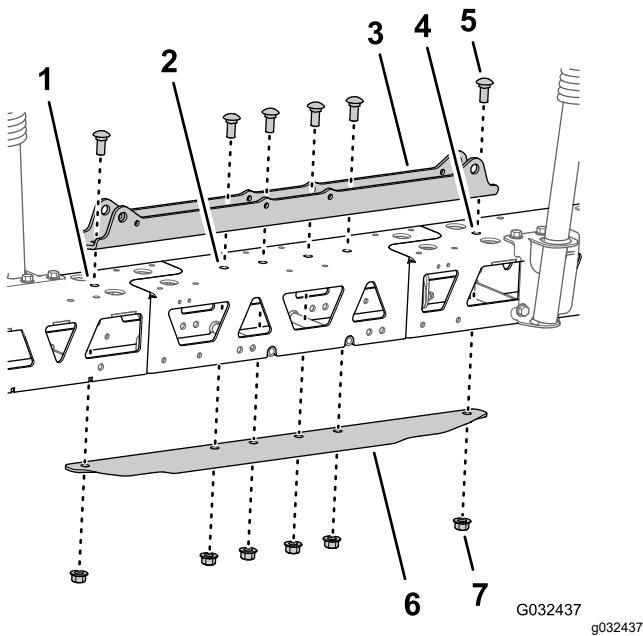

Figure 57
5. Align the holes in the cylinder mount with the holes at the centerline of the truss frame and center-boom extension (Figure 57).
6. Insert the tie plate into the truss frame and center-boom extension and align the hole in the tie plate with the holes at the centerline of the trusses and boom extension (Figure 57).
7. Assemble the cylinder mount, trusses, center-boom extension, and tie plate with the 2 carriage bolt (1/2 x 1-1/4 inches) and 2 flange locknut (1/2 inch) that you removed in step 2 of Separating the Center-Spray Section Trusses (page 30), and the 4 carriage bolt (1/2 x 1-1/4 inches) and 4 flange locknut (1/2 inch) from the GeoLink spray system finishing kit (Figure 57).